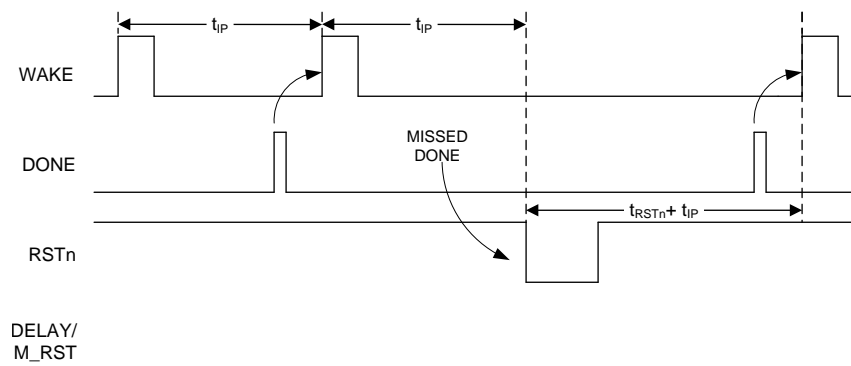

Figure 8. Watchdog
- 2. At the beginning of a new time interval if DONE is not received at least 20 ms before the next WAKE rising edge (see Figure 8).
During normal operating mode, the TPL5010-Q1 asserts periodic WAKE pulses in response to valid DONE pulses from the  $\mu\text{C}$ . If either a manual reset is applied (logic HIGH on DELAY/M\_RST pin) or the  $\mu\text{C}$  does not issue a DONE pulse within the required time, the TPL5010-Q1 asserts the RSTn signal to the  $\mu\text{C}$  and restarts its internal counters. See Figure 8 and Figure 10.